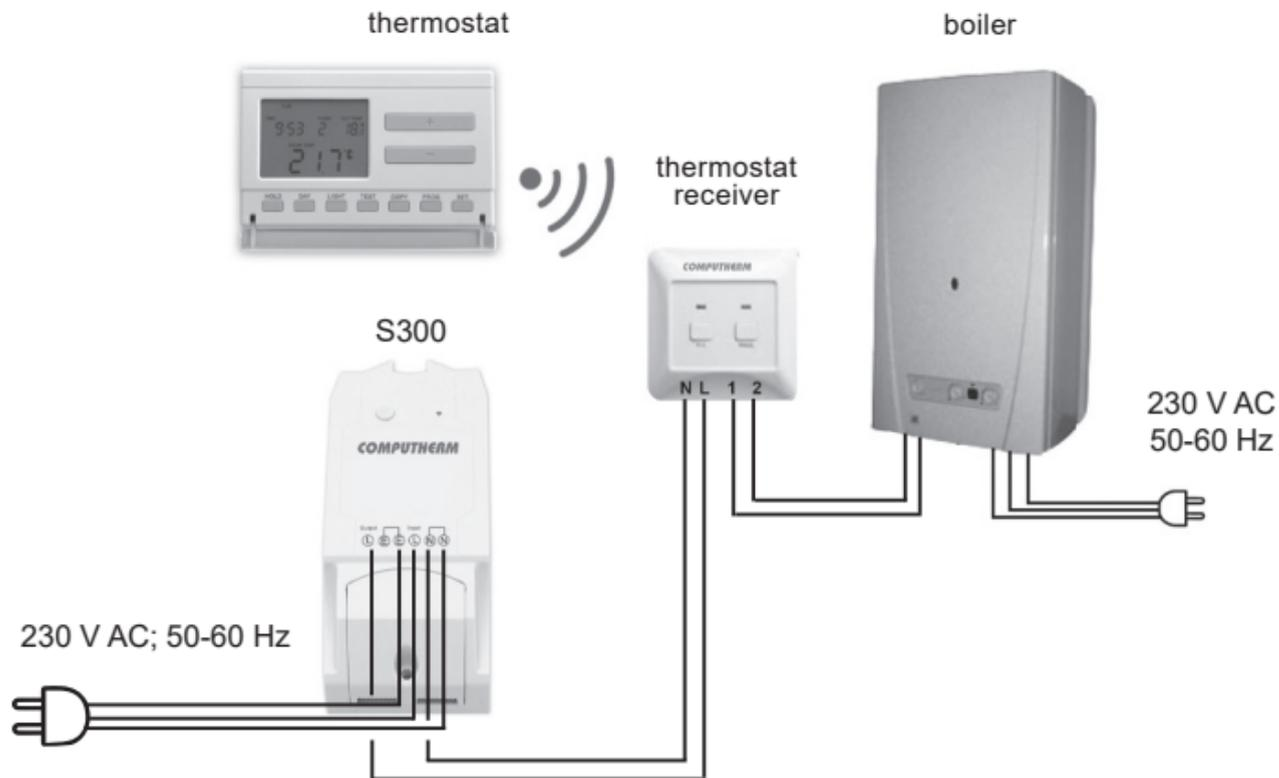

Figure 2
Therefore, if you control your boiler with a **COMPUTHERM** wireless (RF) thermostat, we suggest you to connect the power supply of the receiver unit of the RF thermostat to the **COMPUTHERM S200** Wi-Fi socket instead (Figure 2), **as this way heating will be turned off in the OFF state of the Wi-Fi socket, while domestic hot water is still available.**